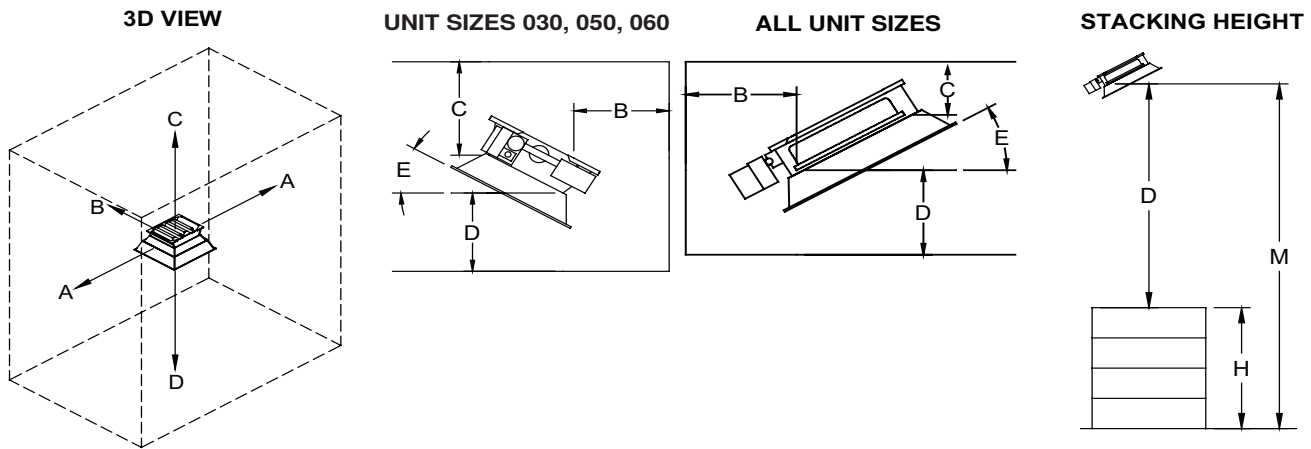

Figure 2. Clearances to Combustibles (Refer to Table 5)
- Clearances to combustibles:** Clearance to combustibles is defined as the minimum distance from the heater to a surface or object for which it is necessary to ensure that a surface temperature of 90°F (50°C) above the surrounding ambient temperature is not exceeded. If the unit must be close to the roof or ceiling, interpose a non-combustible baffle (twice the size of the reflector) between the unit and the roof or ceiling. Allow at least 2 inches (52 mm) between the roof or ceiling and the non-combustible baffle. Allow at least 12 inches (305 mm) between the non-combustible baffle and the top of the heater. In locations used for the storage of combustible materials, ensure that signs are posted to specify the maximum permissible stacking height to maintain required clearances from the heater to combustibles (ANSI Z233.1/NFPA 54). Dimensions shown in Figure 2 and listed in Table 5 are as follows: **A** = side of heater, **B** = back of heater, **C** = top of heater, **D** = below heater, **E** = mounting angle (5- to 30-degree range), **H** = stacking height ($H = M - D$), and **M** = mounting height (refer to Mounting Height Requirements section).